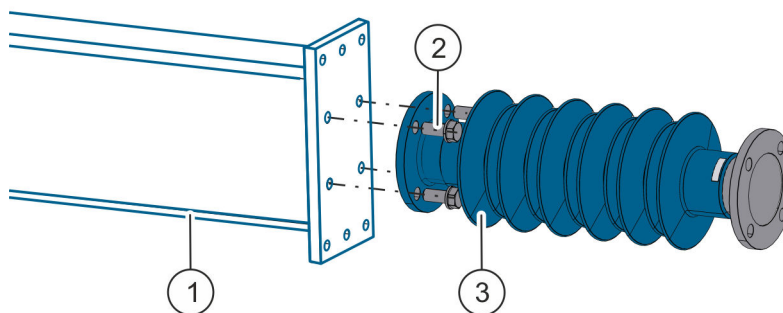

Fig. 10: Assembling the insulator
1. ➔ Assemble the insulator (Fig. 10/3) on the cantilever (Fig. 10/1) with four screws (Fig. 10/2).